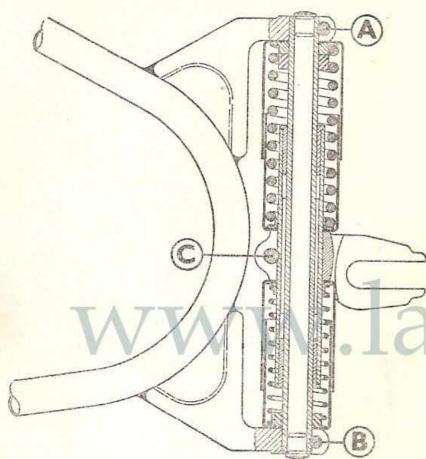

Fig. 22. The rear suspension.
2. *Pinch-bolts.* These are located at the top and bottom of the suspension unit as shown at A and B (Fig. 22 and Fig. 14).